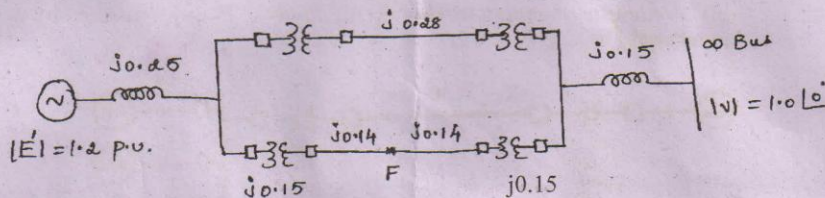

Fig. 15.a.
15. (a) (i) Discuss the methods by which transient stability can be improved. (10, 21) (6)
- (ii) Find the critical clearing angle of the system shown in Fig. 15.a., for a 3 phase fault at the point 'F'. The generator is delivering 1.0 pu. power under prefault conditions. (17, 30) (10)